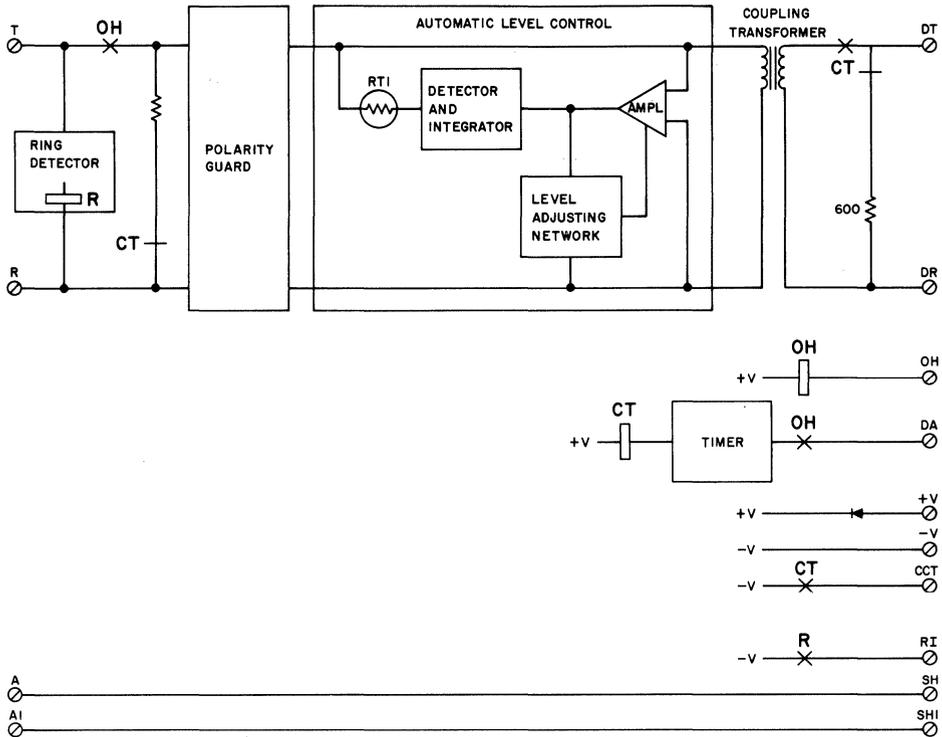

Fig. 3—Functional Schematic of 1001B Data Coupler—Data Mode
**2.09 Coupler Transmission Path:** The coupler transmission path primarily consists of a coupling transformer, an ALC circuit, and a polarity guard (Fig. 3). The transformer terminates the telephone loop and provides a 2-way protective function (ie, hazardous voltages, surge protection, and longitudinal isolation). The ALC circuit prevents the customer signal level from exceeding the prescribed maximum limit. The polarity guard
**2.12 Ring Detection:** The ring detector (Fig. 3) is activated when the 20-Hz ringing signal is present on the line, indicating an incoming call. The R relay, part of the ring detector, operates and releases in response to each half cycle of